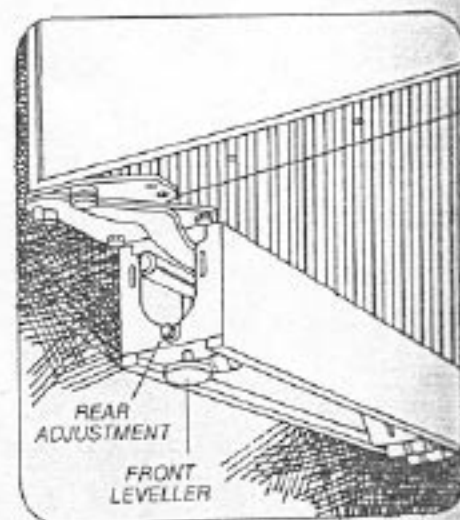

Figure 12
Level the unit. To adjust height, turn front leveling legs counterclockwise to raise, or clockwise to lower. Rear levellers (rollers) are adjusted from front of base. Turn 5/16" hex bolt clockwise to raise cabinet, counterclockwise to lower cabinet. See Figure 12.
4) Using the front and rear levelers, the unit must be raised until it contacts the wood block. See Figure 12.
To reduce possibility of cabinet tipping forward, front levelers must be in contact with floor. See Figure 12.